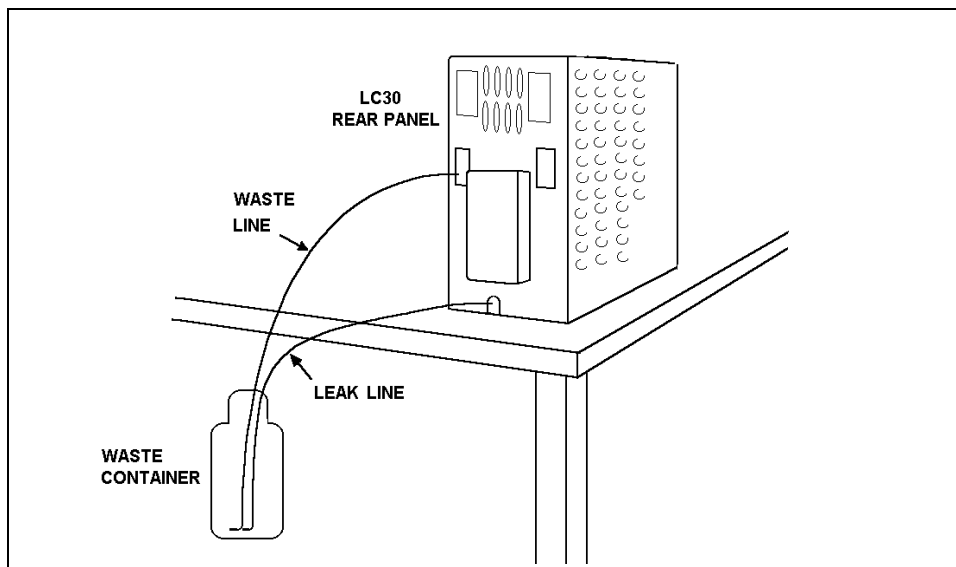

Figure B-11. Waste Lines Installation
4. Place the end of the leak line and each waste line in a waste container (see Figure B-11). Make sure the tubing is not bent, pinched, or elevated at any point.